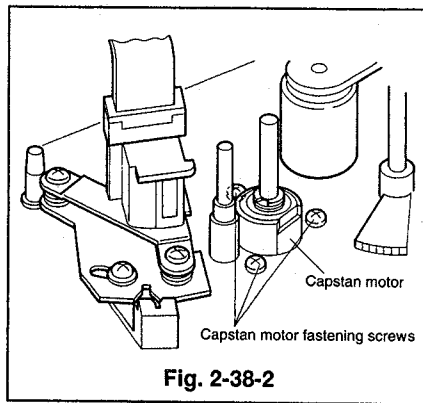

Fig. 2-38-2
- 3 Turn the deck the right side up, remove the three screws shown in Fig. 2-38-2 to remove the capstan motor.
- ① Reverse the deck, position the capstan motor so that the capstan brake is on the outside of the capstan motor.
- ② Turn the deck the right side up, secure the capstan motor with the three screws shown in Fig. 2-38-2.